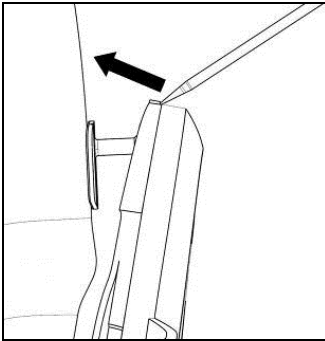

Fig. 18
- Lift the safety block of upper foot using a flat head screwdriver (or a similar tool), as indicated in Fig. 18.